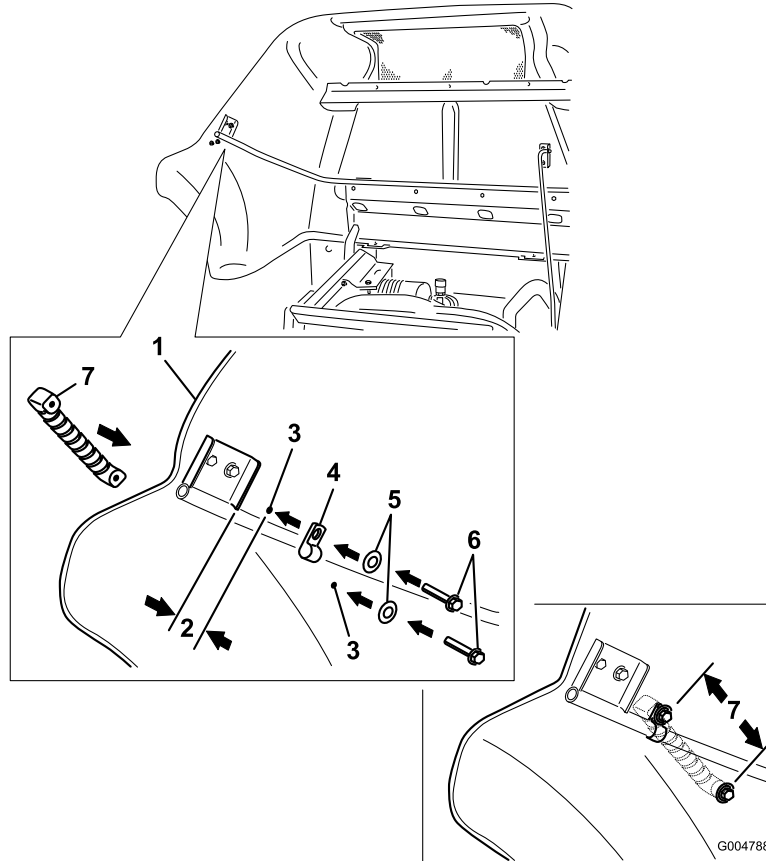

Figure 4
2. Measure up, from the support edge, along the rail 1-1/2 inches (3.8 cm) (Figure 4). Install the clamp around the rail at this location.
5. With the hood handle in the approximate position shown in Figure 4 mark the second spot to drill 4.8 inches (12.2 cm) from the initial drilled hole. Swing the hood handle out of position and drill a 0.3125 inch diameter hole at that position in the hood.